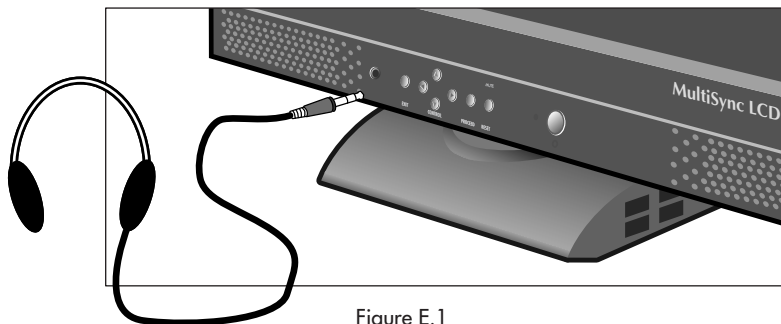

Figure E.1
5. Headphones may be connected to the "Headphones" output on the front of the monitor's bezel marked "H" (**Figure E.1**). While the headphones are connected, the sound from the speakers will be disabled. Headphones can be purchased from your local electronics store.